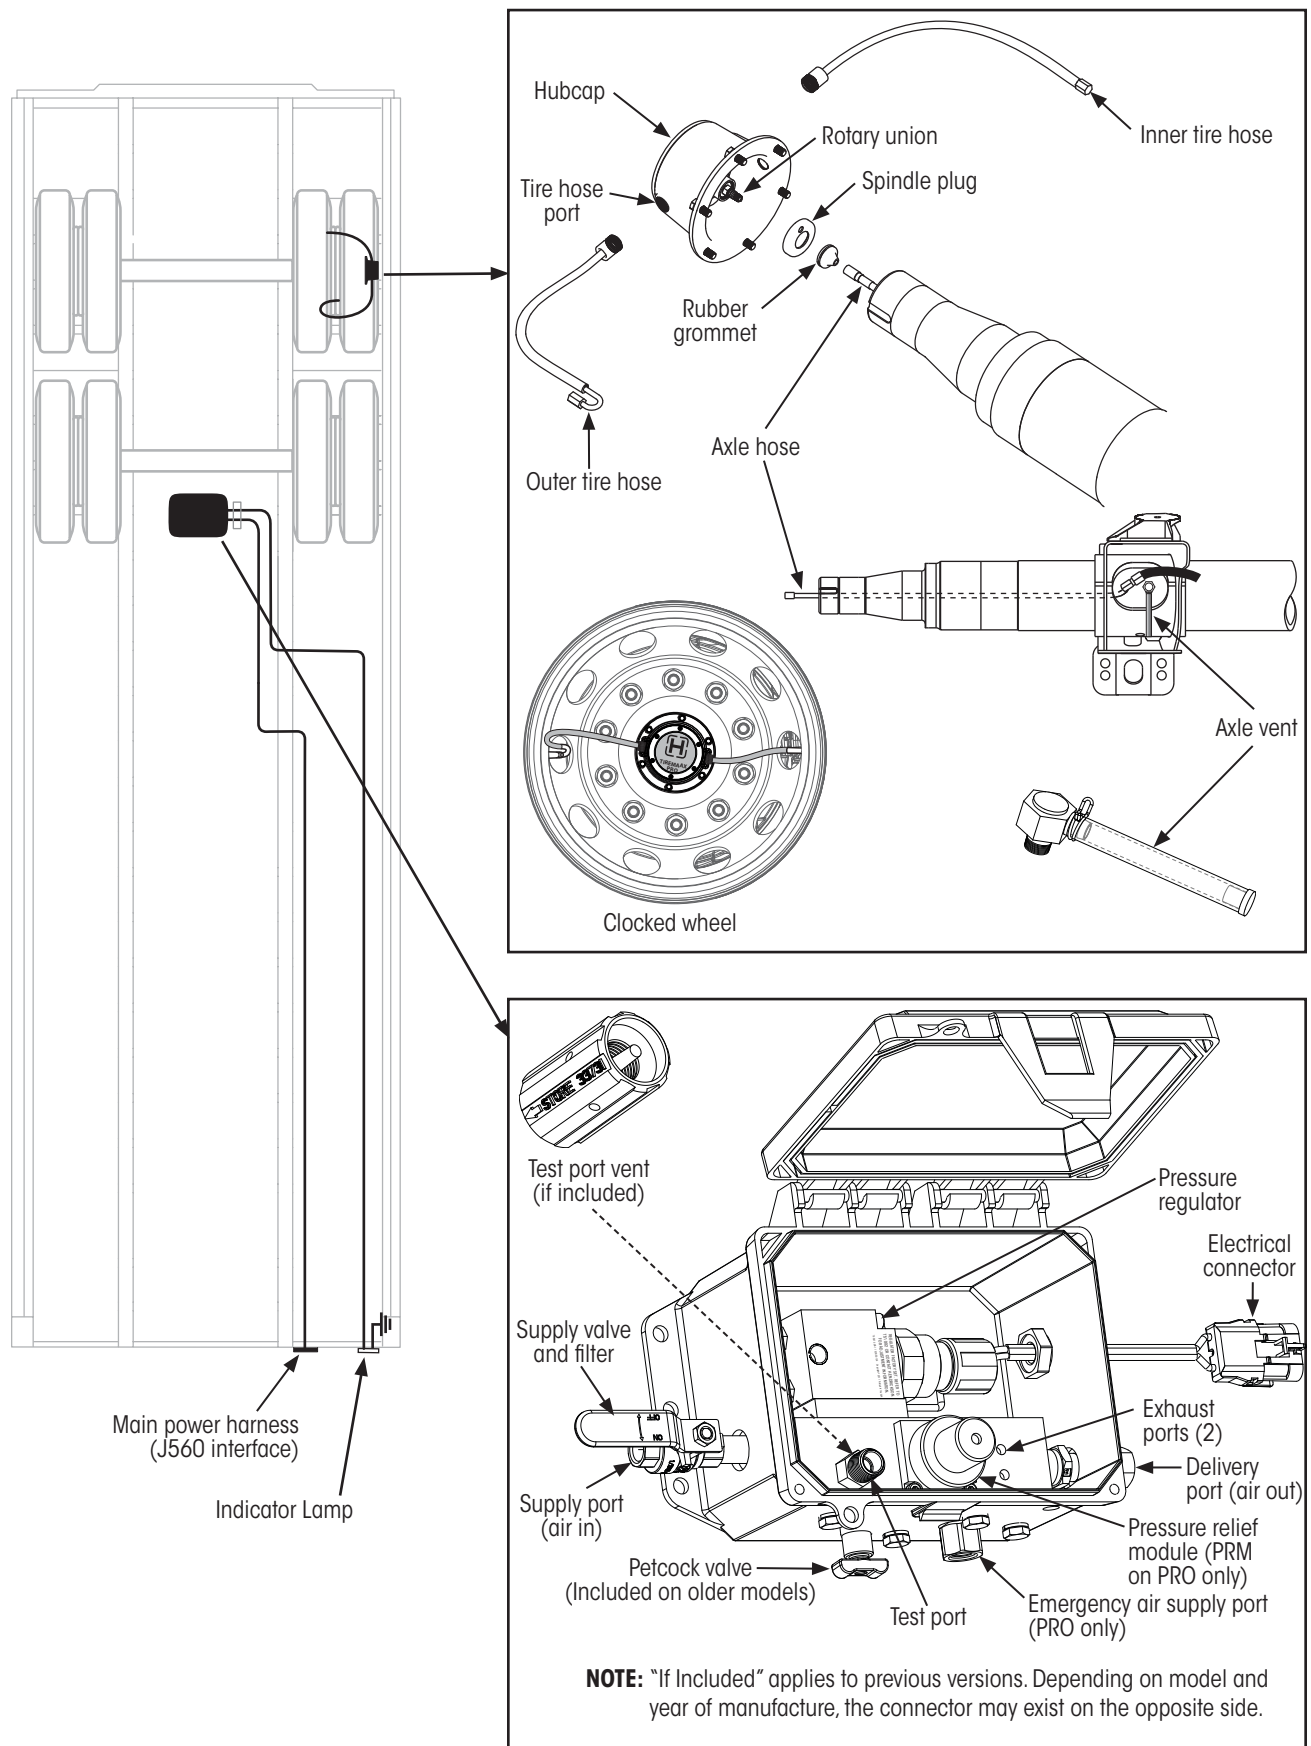

Figure 2: TIREMAAX® components (PRO controller shown)
This section includes a brief overview of TIREMAAX® PRO and CP components. Refer to Figure 2 on previous page.
- If the indicator lamp (Figure 2) remains illuminated for more than 10 minutes, the system is attempting to inflate the tires but may not be able to adequately maintain proper tire pressure. The operator should stop and check the tires to determine if it is safe to continue to operate the vehicle and should seek service at the next opportunity.